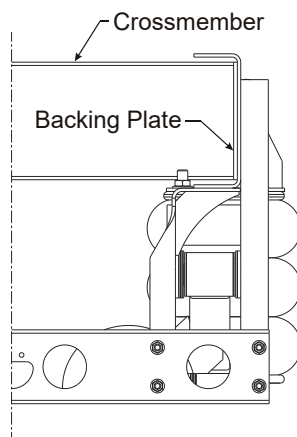

Figure 8
6. Check that cross members and backing plates are correctly positioned for the intended axle location (See Figure 8 and 9).